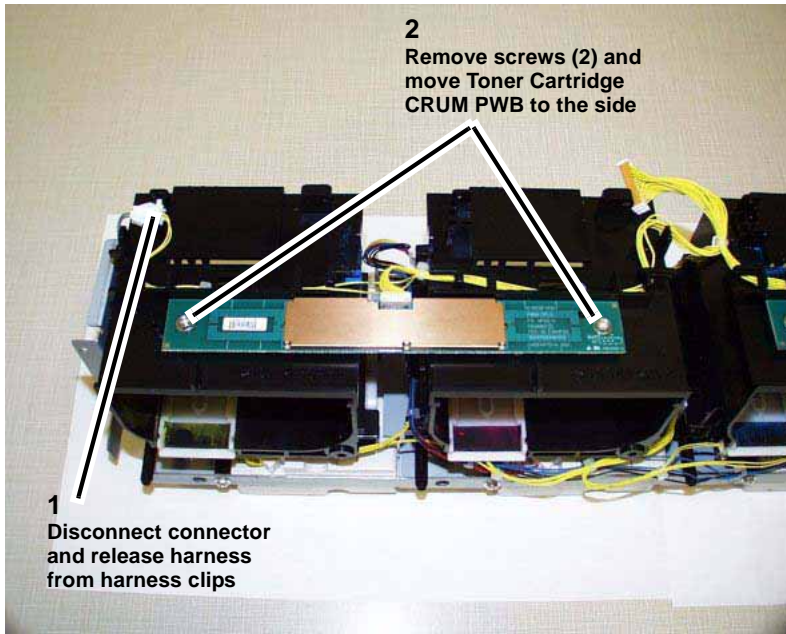

Figure 3 Removing the Toner Cartridge CRUM PWB (C, M, Y)
4. Remove the Toner Cartridge CRUM PWB (C, M, Y) (Figure 3).